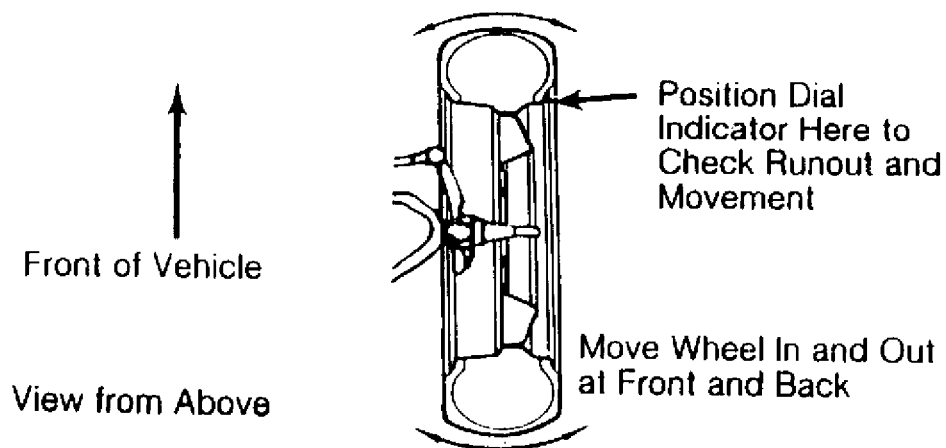

Fig. 1: Checking Steering Linkage
- \* Steering linkage and suspension must not have excessive play. Check for wear in tie rod ends and ball joints. Springs must not be sagging. Control arm and strut rod bushings must not have excessive play. See Fig. 1.